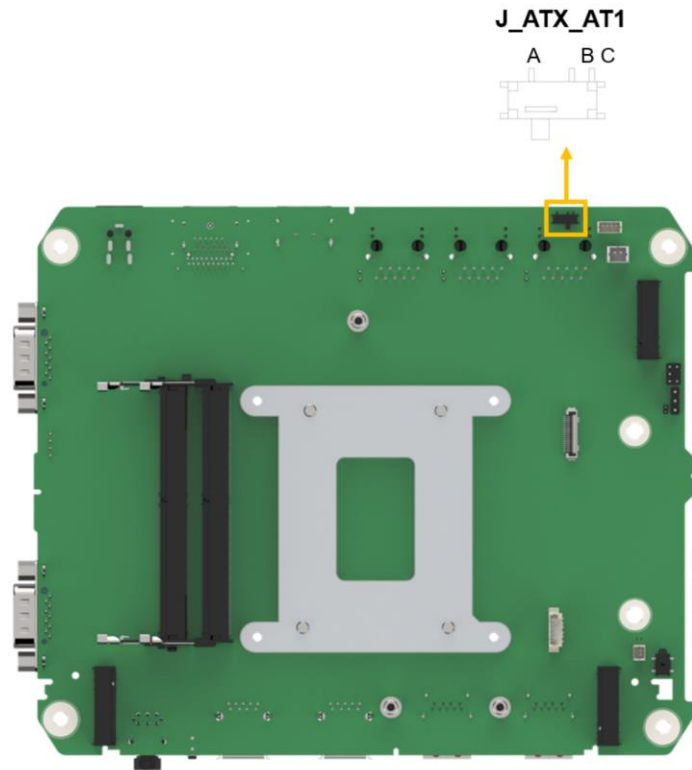

Figure 4-8: AT/ATX Power Mode Switch Locations
- CN Location:** See **Figure 4-8**
The AT/ATX power mode selection is made through the AT/ATX power mode switch which is shown in Figure 4-8.